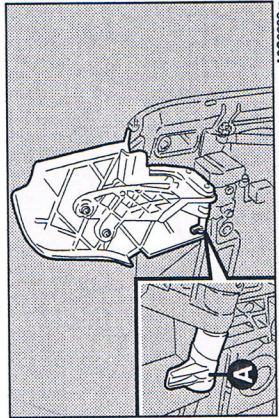

fig. 71
- fold flaps by turning the pin lever **A-fig. 71** to the dead center;